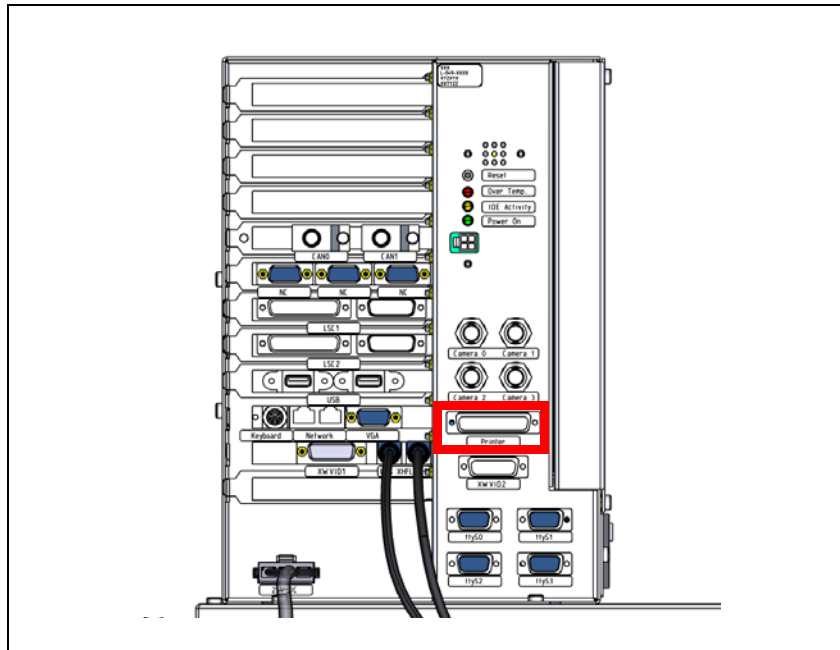

Figure 14-1. Printer connection.
6. The machine is connected to the printer via the DSUB connector, located in the front of the CB3 (Computer Box 3). See Figure 14-1.